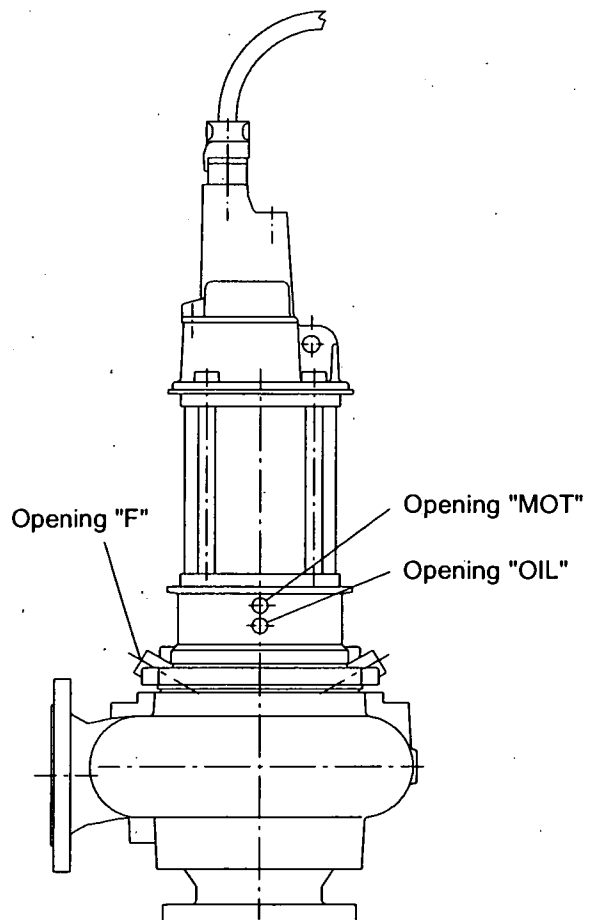

Fig. 7
KEY FOR SYMBOLS ON FIG. 7,8,9
CONVECTION COOLING - Code "K" (Fig. 7)
Stand pump vertically on its suction flange. Remove screw plug "MOT" (Fig. 7, 8 or 9) with copper washer (536) so that any liquid can run out. Do the following repairs according to what comes out of the motor housings: